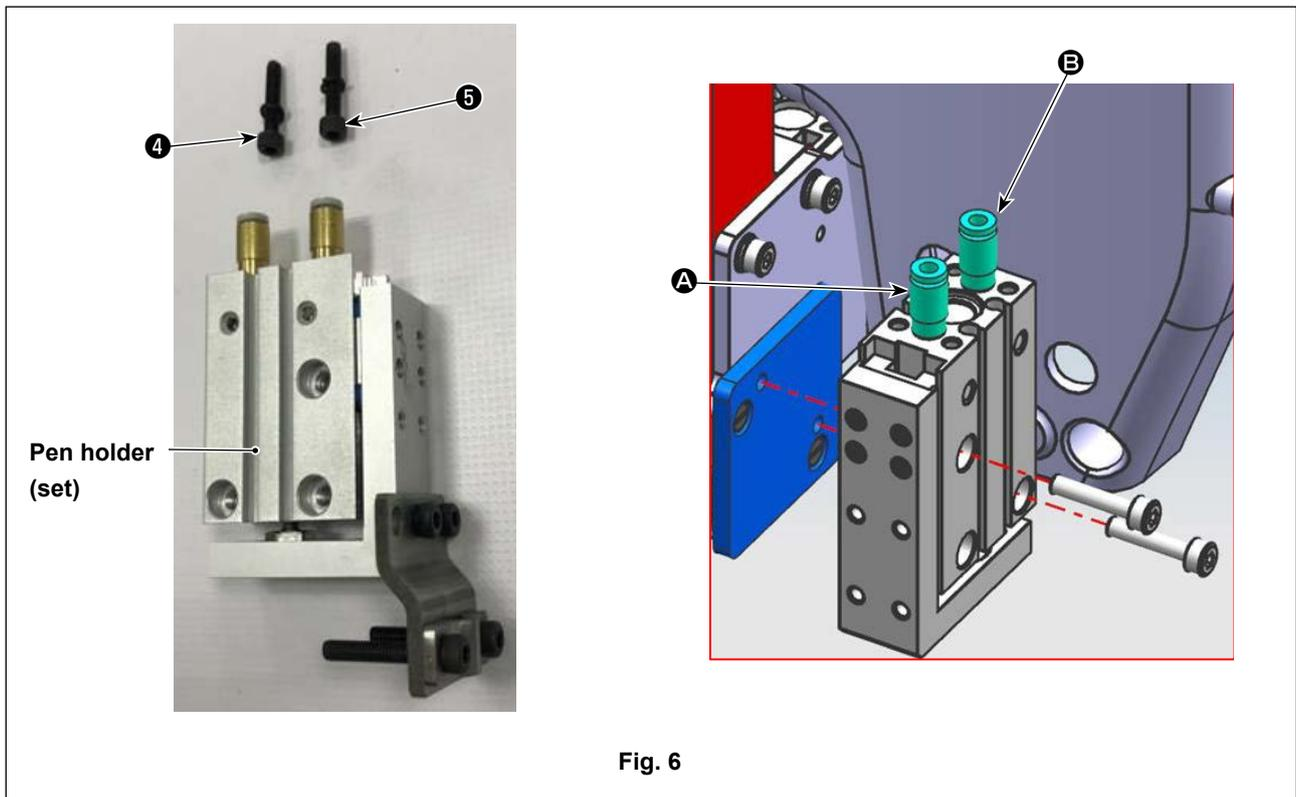

Fig. 6
Install the pen holder to the pen holder mounting plate B with two screws ④ and two spring washers ⑤ using a 3-mm hexagonal wrench key. (Fig. 6)